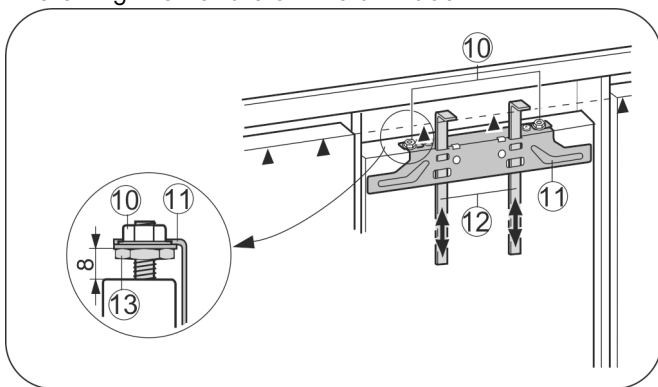

Fig. 28
- Raise the fitting aids Fig. 28 (12) to unit door height. Bottom stop edge of ▲the fitting aid = top edge of the unit door to be fitted.
- Unscrew the crosspiece Fig. 28 (11) by undoing the locknuts Fig. 28 (10).